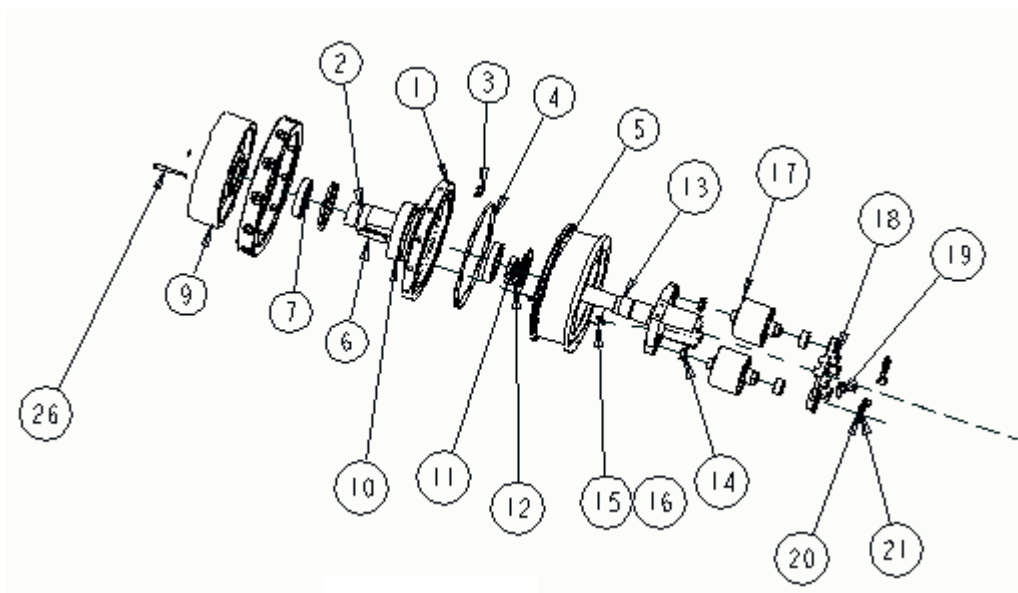

Figure13 DISASSEMBE AND ASSEMBLE OF QUILL SHAFT MAIN SHAFT AND MAIN GEAR
The disassembling and assembling steps are as following (see Figure 13):
- First disassemble the main shaft according to the steps of main shaft disassembling;(Figure13)
- Remove screw 26;(Figure 13)
- Disassemble screw 27 to remove the quill flange 1;(Figure13)
- Knock the end of quill shaft from the rear of gearbox 1, remove the quill shaft 2 from the front and remove the main gear 9 from the side. (Figure 13)